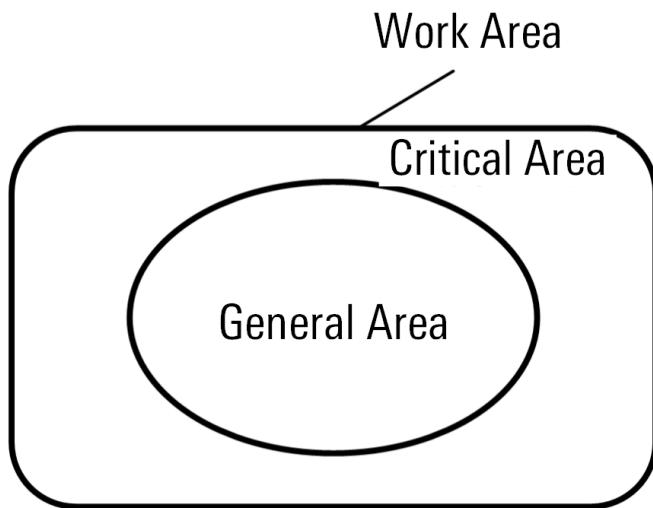

Figure 1-2 Working area and critical area
- Work Area The range of motion of TCP points in the Cartesian coordinate system. The shape and position can be set by the user, as shown in the area within the rounded rectangle in Figure 1-2.
- Critical Area This area is a sub area of the work area, and its shape and position can be set by the user, as shown in the area between rounded rectangles and ellipses in Figure 1-2. During the drag teaching process, when the TCP point enters the area, the user will feel resistance acting on the TCP point, which prevents the user from moving the TCP point outside the working area.
- General Area This area is a sub area of the work area, and its shape and position can be set by the user, as shown in the area within the ellipse in Figure 1-2. The intersection of the critical area and the conventional area is an empty set, and the union is the working area.